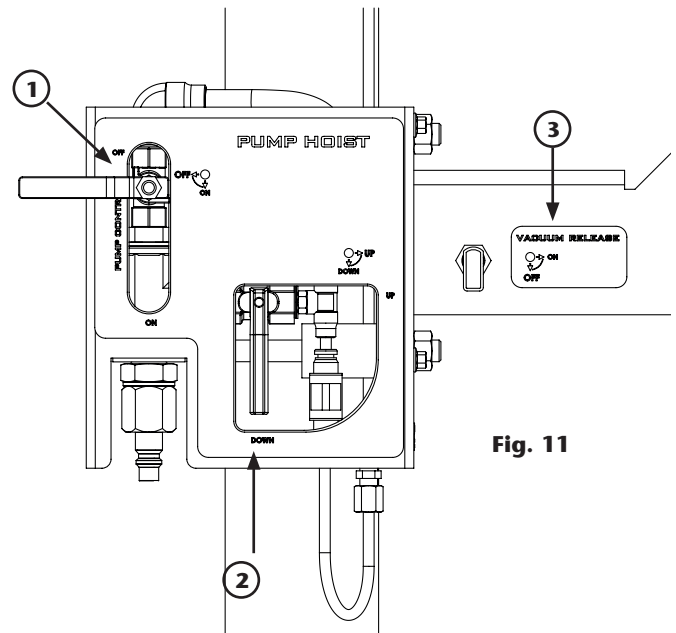

Fig. 11
1. Check that the control cabinet lever is in the "UP" position (2) (fig. 11).
4. Move the control cabinet lever to the "DOWN" position (2) (fig. 11).
1. Start the pump by placing the "Pump Control" valve in the "ON" position (1) (fig. 11).
4. Move the control cabinet lever to the "UP" position (2) (fig. 11). In this position the cylinder go up in the unit. Only with follower plate model, open the vacuum released valve, a current of air enters the drum to push the inductor plate (3) (fig. 11).
6. Only for follower plate model close the vacuum released valve. (3) (fig. 11).